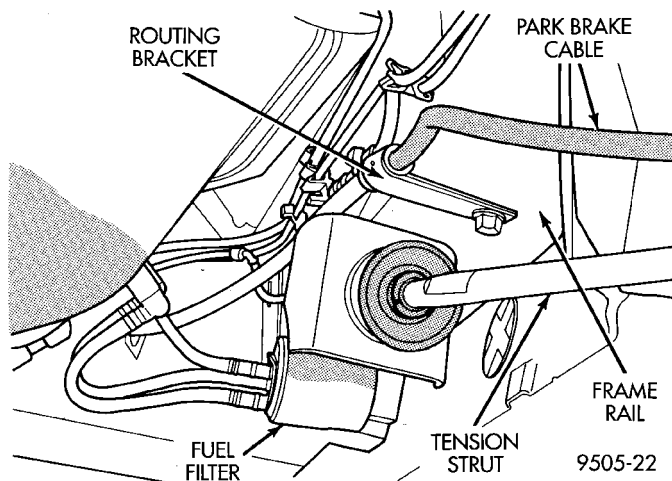

Fig. 152 Park Brake Cable Routing Bracket
(22) Remove park brake cable routing bracket (Fig. 152) from vehicle frame rail.
(3) Install park brake cable routing bracket (Fig. 152) on frame rail. Install and securely tighten routing bracket attaching bolt.